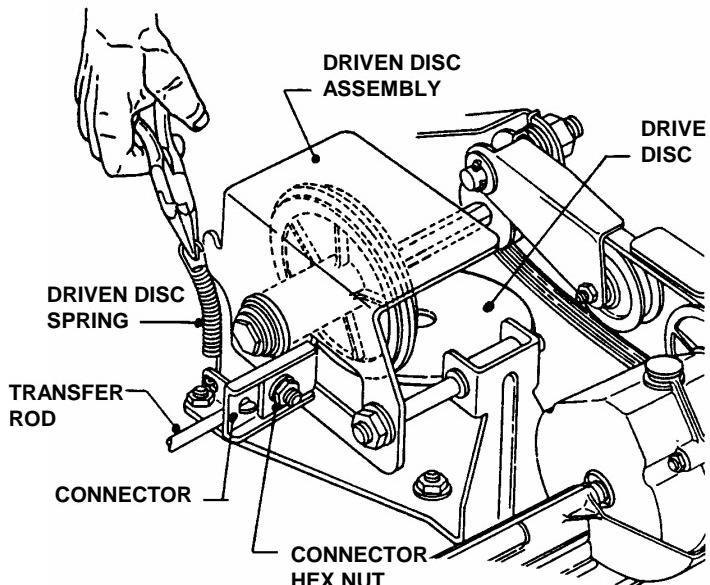

FIGURE 4.9
- Remove driven disc spring from driven disc assembly. Loosen connector hex nut. See Figure 4.9.